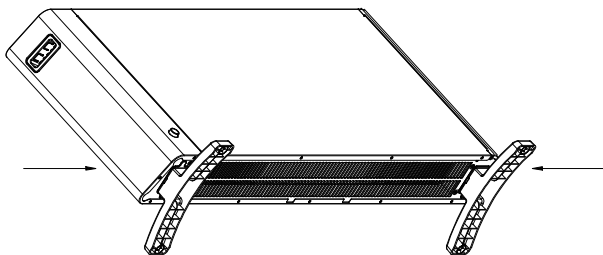

Fig.3
3. Secure the two base feet and push them into the middle until they are fully in place.(Fig. 3)